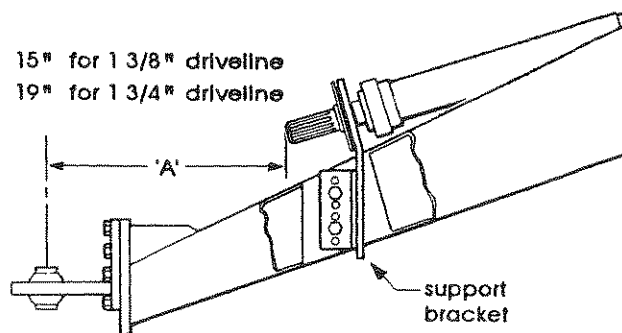

Fig. 3
4. When the baler is connected to the tractor, the PTO drivelines can now be installed and properly adjusted. The correct driveline adjustment is achieved by positioning the carrier bearing support bracket either forward, back, up or down. (See Fig. 3). The rear (baler) driveline fits either size front driveline.
5. The PTO shaft bearing mount angles, ANG0027391, are designed to be used with either size (1 3/8" or 1 3/4") drivelines. The 3" flange angle bolts to the baler tongue side plates while the 2 1/2" leg mounts the carrier bearing support bracket, MNT0028883. With the 3" flange towards the front of the baler, dimension 'A' is 19", with angle flanges towards rear of baler, dimension 'A' is 15". (See Fig. 3). (See parts manual page 27 for parts description).